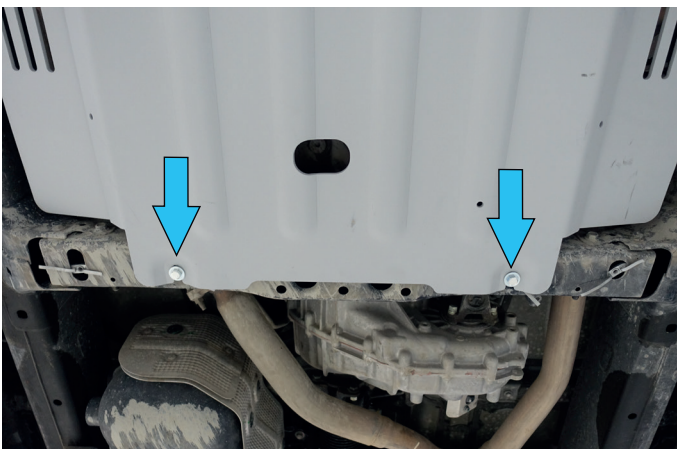

Fig. 9
8. Slide the transmission skid plate (item 1) over previously installed M8x25 bolts and M8 washers from step 6 as shown in fig.9.